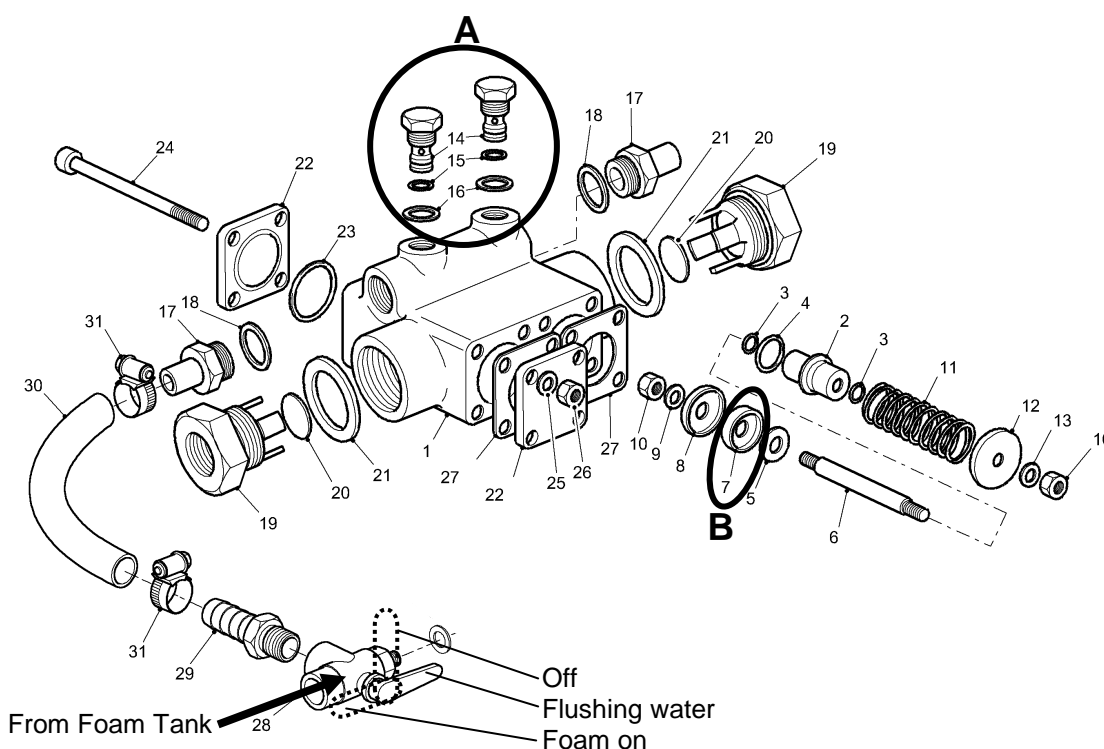
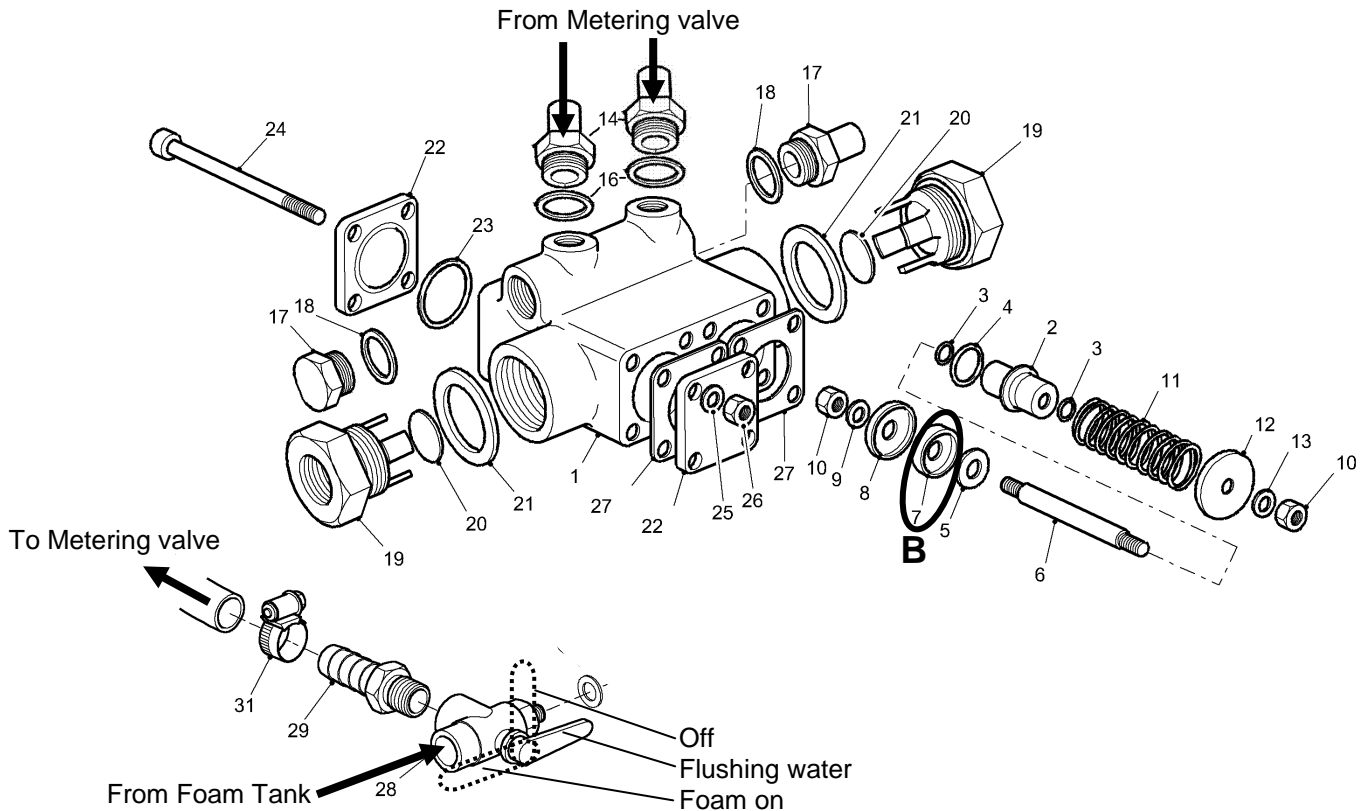

Fig.7. Automatic high pressure system with fixed percentage foam nozzles
Fig.8. High pressure foam system with twin metering valve
In addition, the high pressure foam system incorporates a 3-way valve in the foam supply line (see Fig.7). The positions on this valve are -
The two foam nozzles are located on the top of the high pressure valve (see **A** Fig.7). Unscrew each nozzle for inspection and cleaning. If necessary clean inside the high pressure valve to remove any visible foam contamination. Item 14 in Fig.7.
Check the nozzle seals and sealing washers before replacing. Item 15, 16 in Fig. 7.
The high pressure valve chambers can be inspected for foam contamination by removing the two foam inlet connections (item 14 in Fig.8.) and inspecting the internal parts of the valve
Reference B in Fig.7 and Fig.8. Item 7.